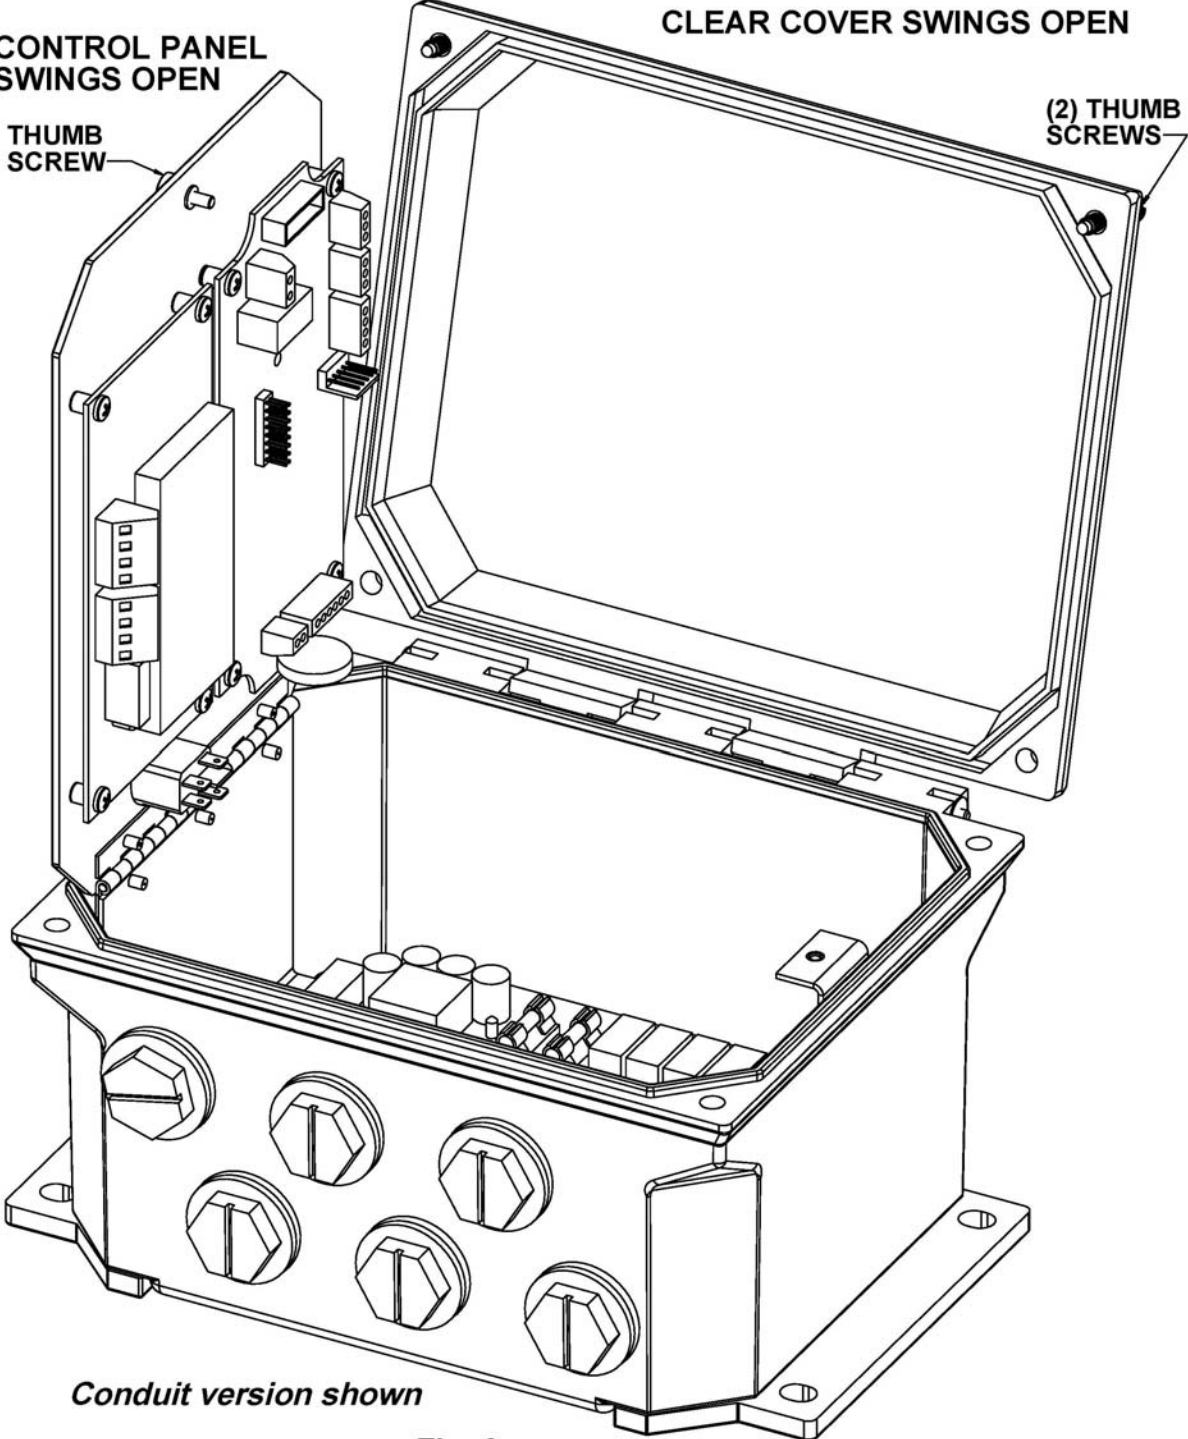

Fig. 2
Loosen the two (2) thumb screws to open the front cover of the controller, then loosen the inside panel thumb screw and carefully swing the panel to the right (Fig. 2).